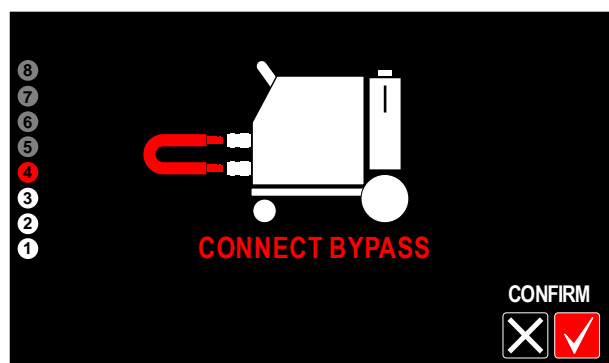

Figure 17
- When coolant will start leaking from **BYPASS**, connect **BYPASS** to red inlet socket on front of the power - (Figure 17).